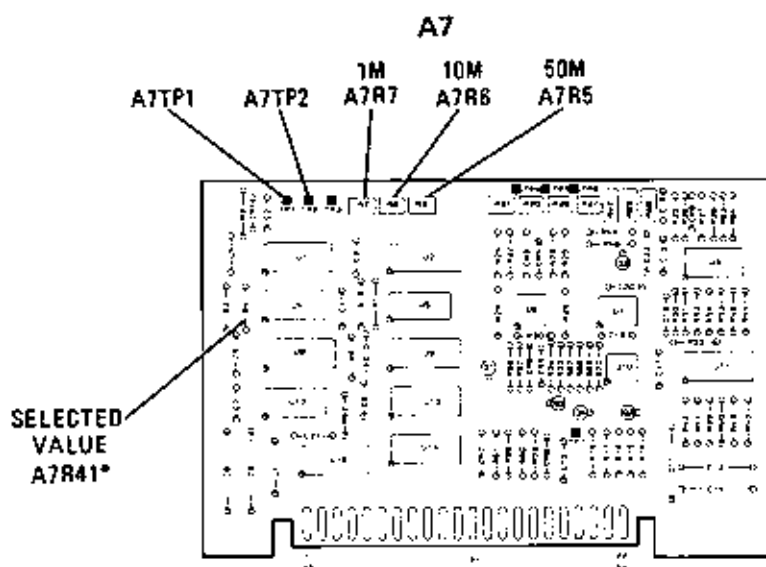

Figure 5-36. Marker Adjustments on A7
- Connect scope probe to A7TP1 (Figure 5-36). Adjust A7 Marker Threshold potentiometers for the proper pulse width of each marker as follows: